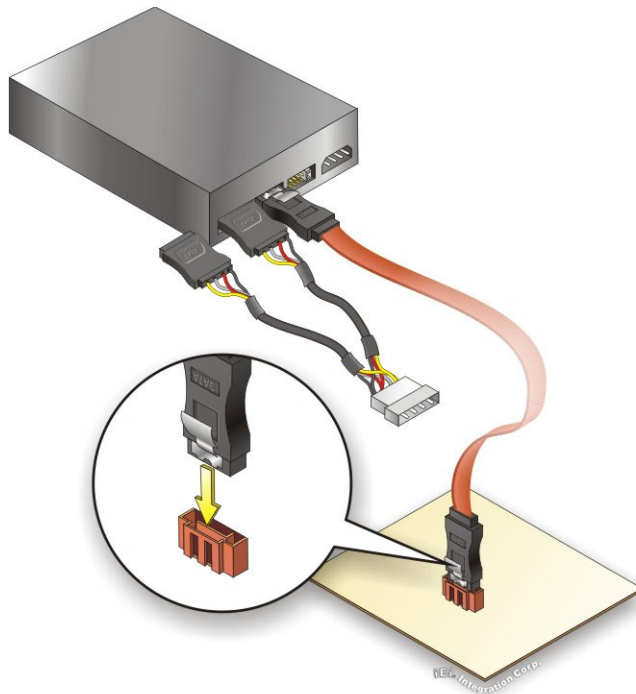

Figure 4-19: SATA Power Drive Connection
Step 3: Connect the cable to the SATA disk. Connect the connector on the other end of the cable to the connector at the back of the SATA drive. See **Figure 4-19**.
Step 4: Connect the SATA power cable. Connect the SATA power connector to the back of the SATA drive. See **Figure 4-19**.